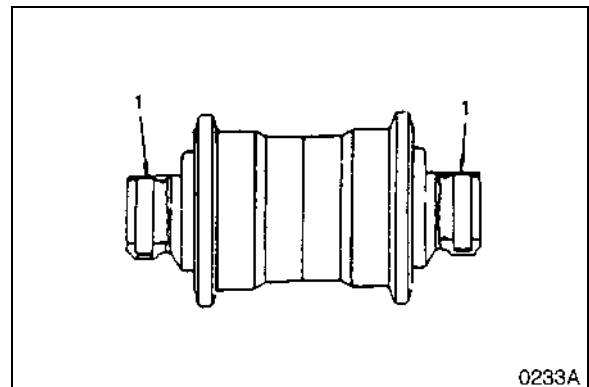

Figure 31
2. Pull the pin (1, Figure 31) from the collar.